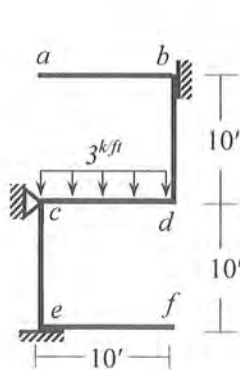

Fig.1
1. Use stiffness method (neglecting axial deformations) to calculate rotations of joints *c* and *d* of the frame *abcdef* loaded as shown in Fig.1